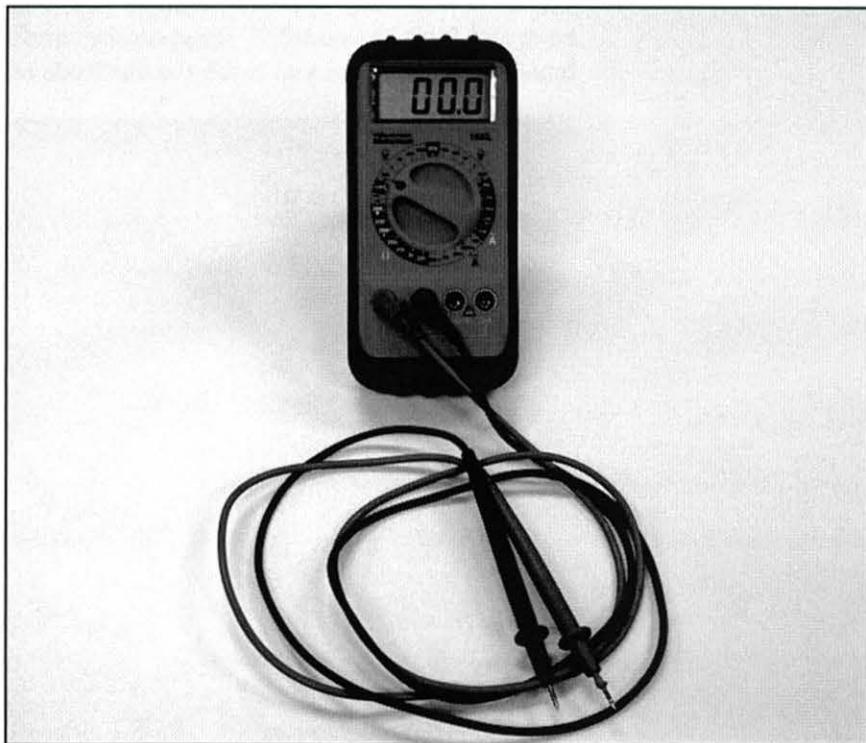

Figure 30. A Digital Multimeter
- ❑ 3. Locate a digital multimeter, similar to figure 30, and set it to measure DC volts at the lowest range setting.